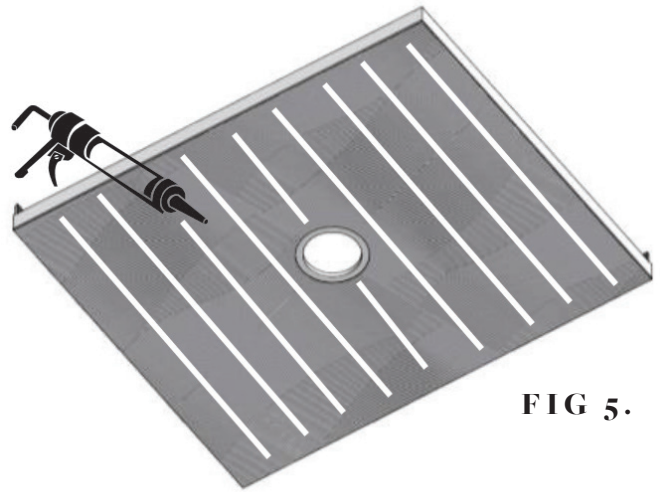

FIG 5.
- Apply adhesive in continuous parallel 8mm lines approximately 100mm apart (FIG 5).
- Place top waste clamp into recess and down into waste body then fasten top clamp in place (FIG 5) by fixing screws. Screws need to be firm but not over-tight.